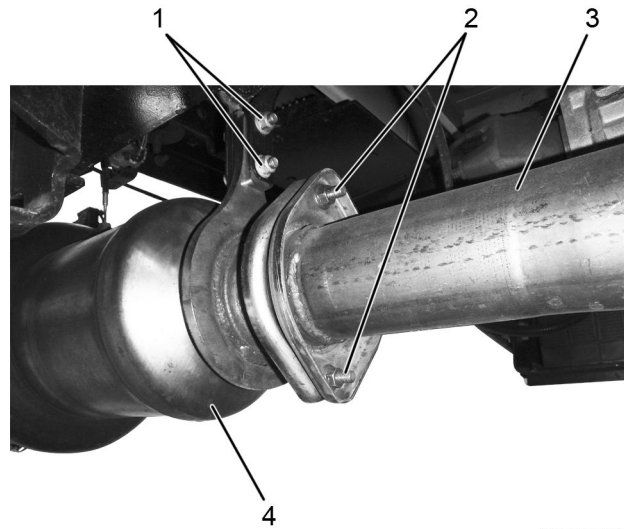

Figure 7. Diesel Oxidation Catalyst (DOC) Inlet Pipe.
1. Bolt / nut assembly (2)
2. Nut (2)
11. Remove two nuts (Figure 7, Item 2) securing turbocharger down pipe (Figure 7, Item 3) to DOC inlet (Figure 7, Item 4).
12. Remove two bolt / nut assemblies (Figure 7, Item 1) from DOC hanger bracket.
6. Position and install DOC inlet pipe (Figure 7) onto turbocharger outlet with gaskets, spacers, and bolts. Refer to appropriate service manual, service bulletin, or equivalent for detailed instruction.
7. Position and install hanger bracket to DOC inlet pipe (Figure 7). Refer to appropriate service manual, service bulletin, or equivalent for detailed instruction.